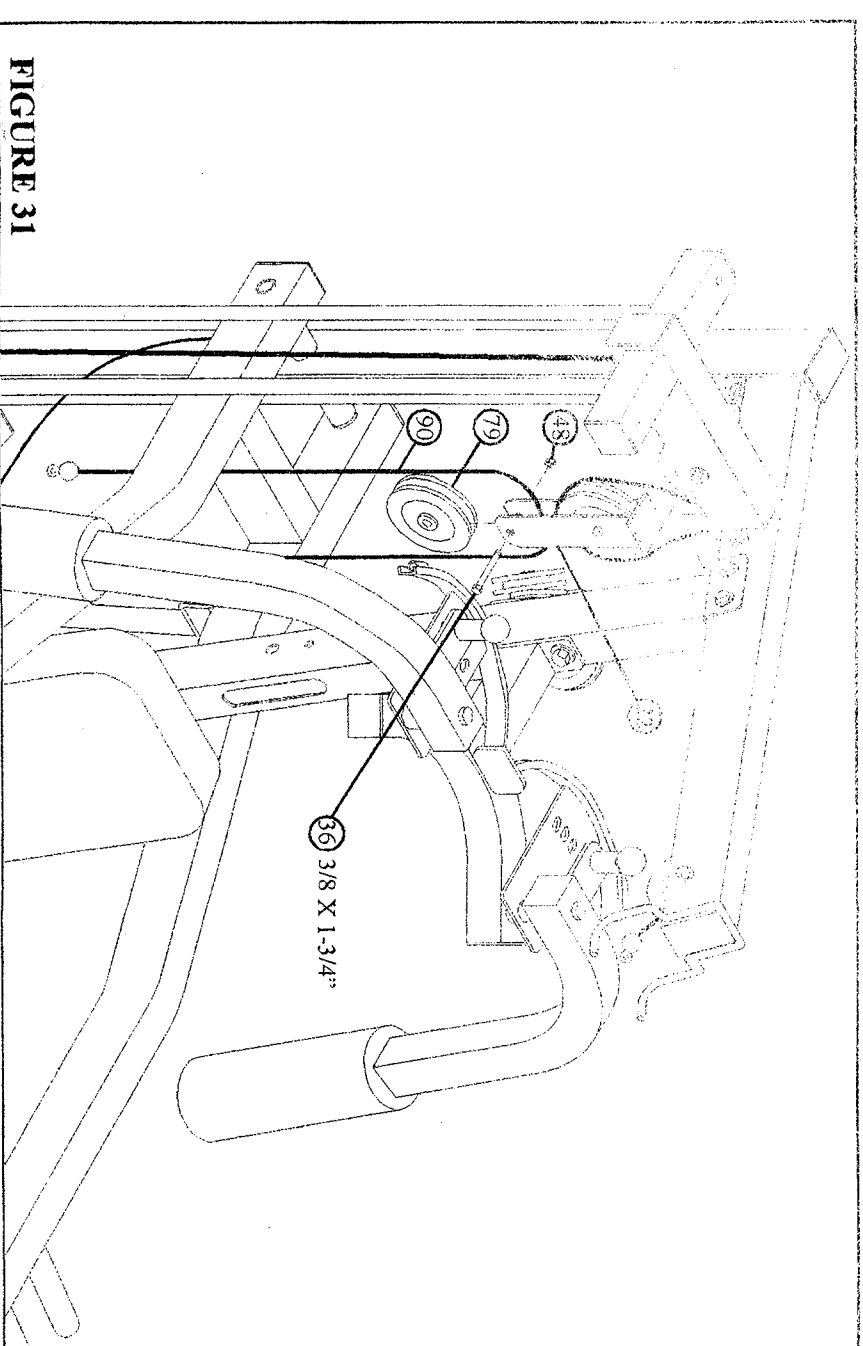

FIGURE 31
- Assemble one 3-1/2" PULLEY (79) around the LEG EXT. CABLE (90) and to the upper FLOATING PULLEY BRACKET (22) using one 3/8 X 1-3/4" BOLT (36) and one 3/8" LOCKNUT (48) as shown in FIGURE 31.